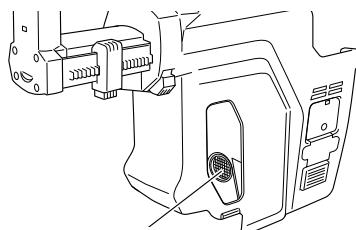

Fig. 15
(3) If dust is adhered to the intake port (mesh covering) or the area around it, clean it off with a soft brush. (Fig. 15)